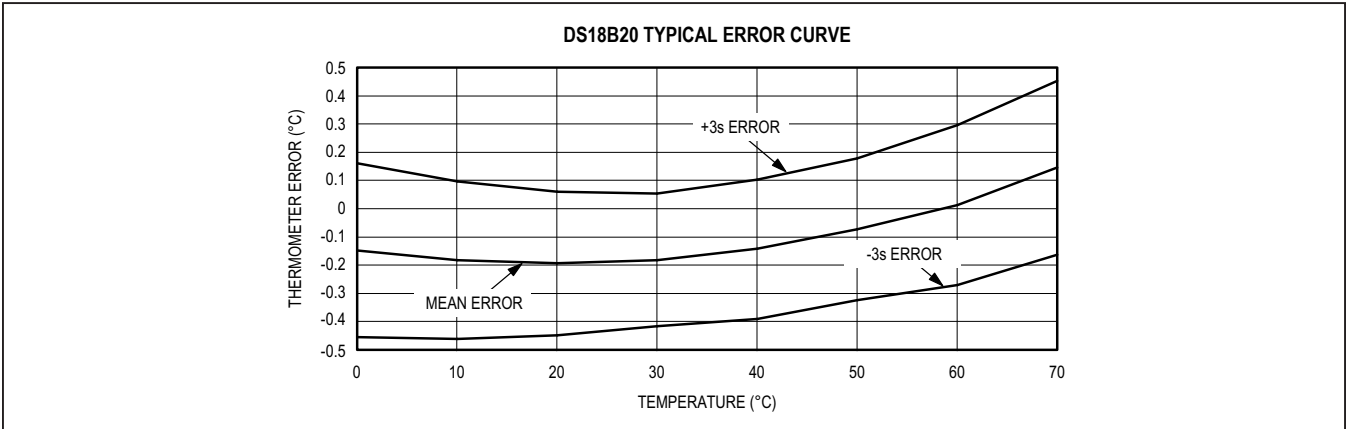

Figure 1. Typical Performance Curve
**Note 3:** See typical performance curve in Figure 1. Thermometer Error limits are 3-sigma values.